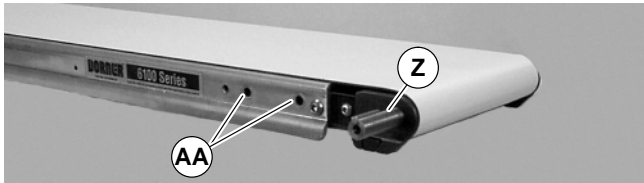

Figure 6
3. Locate drive output shaft (Z of Figure 6) and remove two (2) screws (AA).